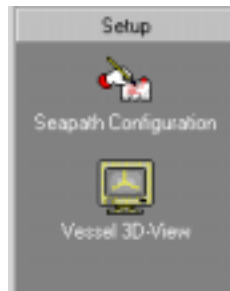

Figure 24 Setup icons
- ✓ **SCC Mode Select Bar**. (See Figure 24 Setup icons)